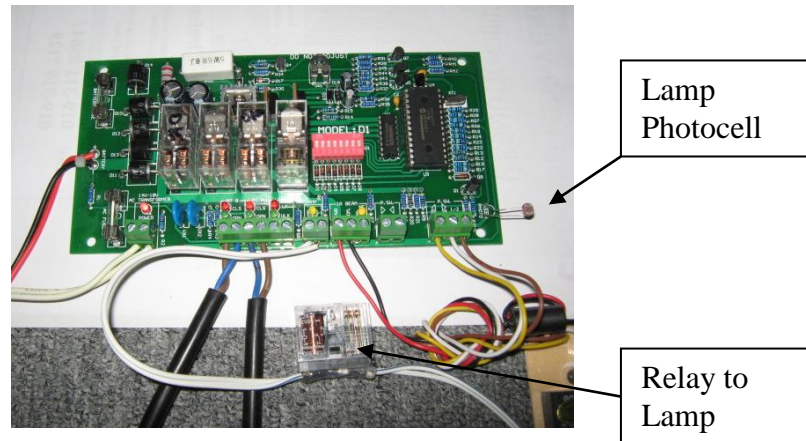

Figure 1: Connection of 12VDC Relay
2. Connect a 12VDC relay as is shown in Figure 1.